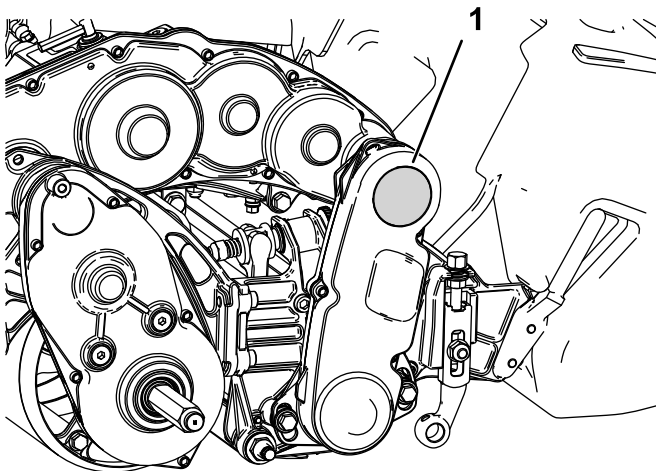

Figure 5
1. Remove the plug from the top of the reel-drive assembly (Figure 5).